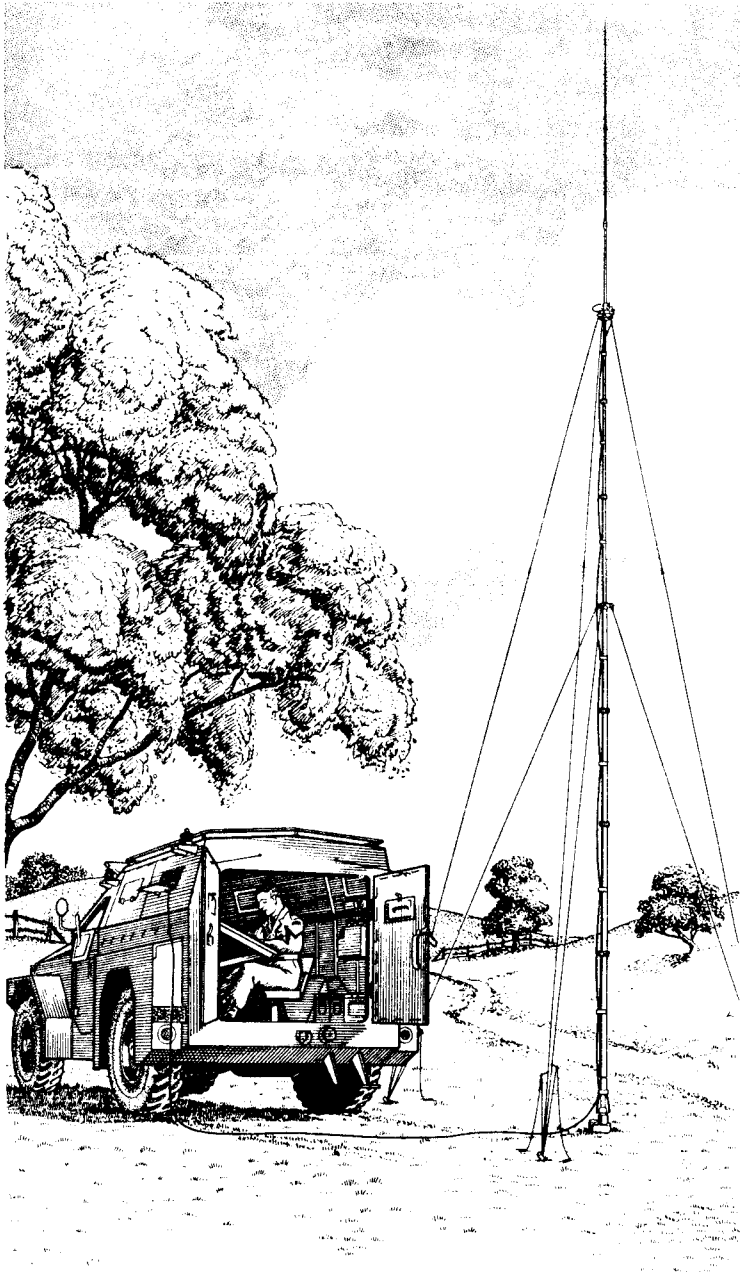

FIG. 5. ELEVATED AERIAL IN USE.
- 5.7 Raise the mast to its full height, in accordance with instructions given in the mast handbook. During the erection secure the co-axial connector to the mast at frequent intervals with tape or yarn, finally tying-back the connector at the base of the mast. (See Fig. 5).